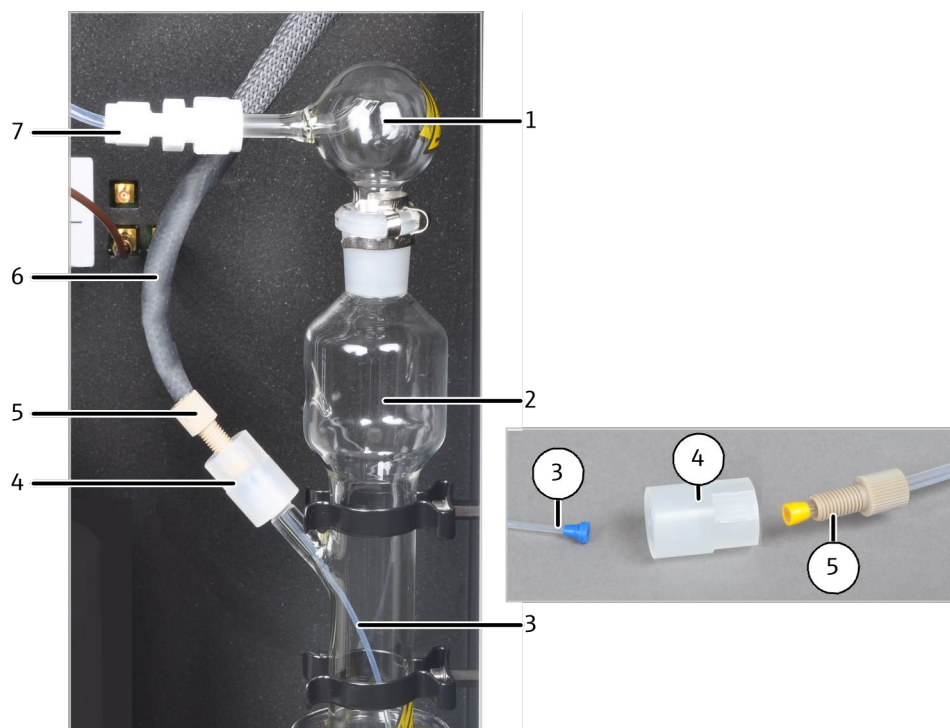

Fig. 50 Connection transfer line – sulfuric acid container
- Remove the banjo bolt (5 in Fig. 50) from the connector, separating the heated gas transfer line from the sulfuric acid container.
- Disconnect the Teflon connection (7 in Fig. 50) and remove the measuring gas hose from the safety attachment.